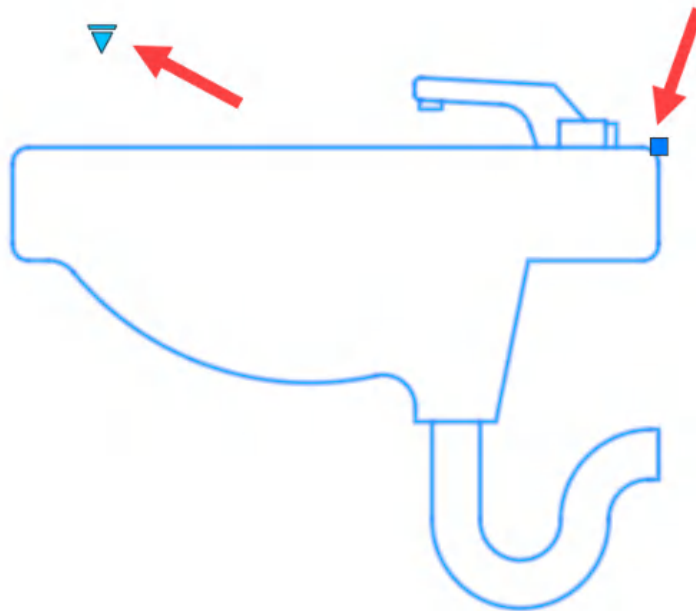

Figure 12.37: The selected Washbasin\_DYN dynamic block
5. Pick a point to insert the **Washbasin\_DYN** block. Once placed, click on the block to select it, as shown in *Figure 12.37*.